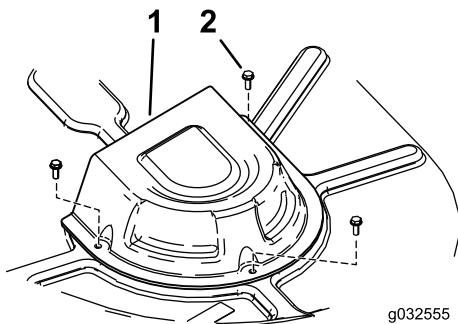

Figure 65
4. Remove the pulley covers (Figure 65).
8. Install the pulley covers (Figure 65).